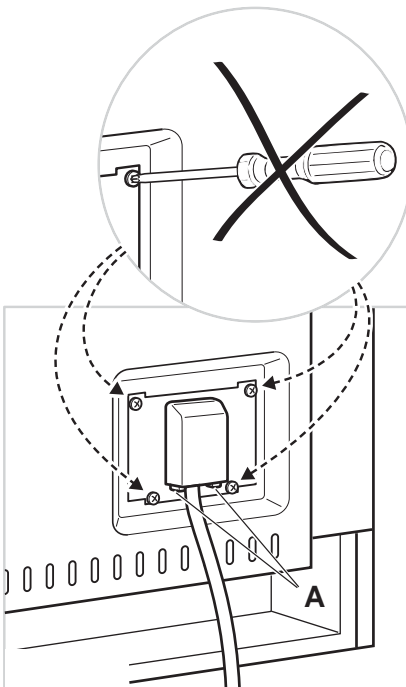

Fig. 12 Terminal block
- 1 Unhook the terminal board cover by inserting a screwdriver into the two hooks 'A' (fig. 12).